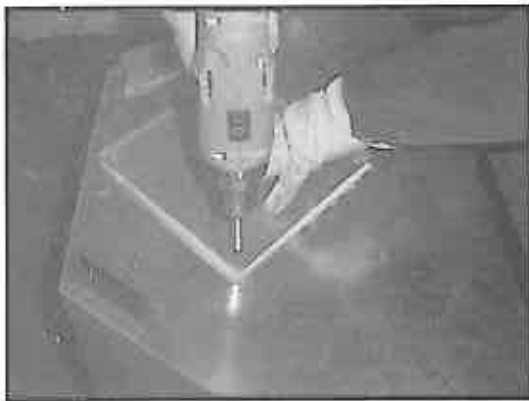

Figure 5 - Remove the Cover Plate
Note: If the appliance is to be top vented, remove and discard the plate (Figure 5) and replace the screw you removed in Step 1.
- a. Remove and discard four screws holding the cover plate to the top of the appliance. See Figure 5.